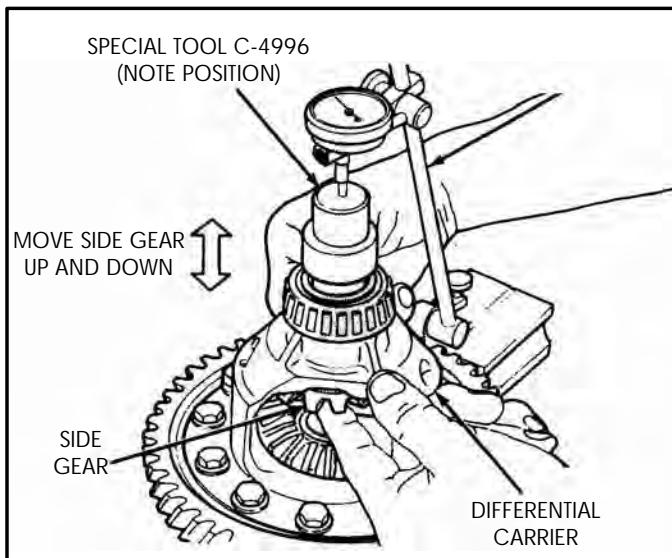

Figure 154
8. Set up the dial indicator and special tool, as shown in Figure 154.
9. Move the side gear up and down, as shown in Figure 154, and record end play. Side gear end play should be .001" to .013" There are four different thickness washers available from your dealer: .032", .037", .042" and .047".